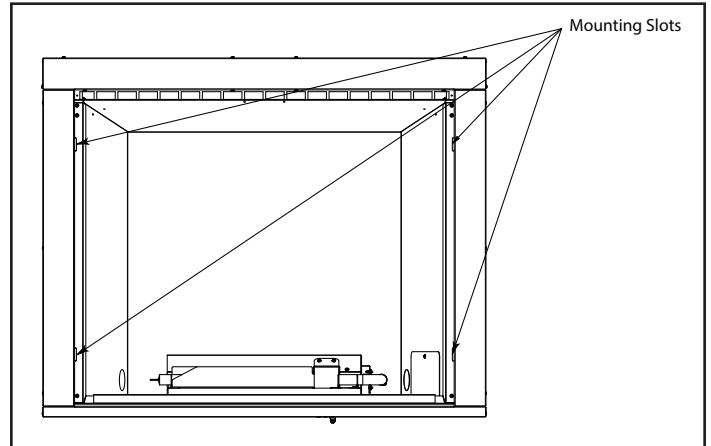

Figure 6
9. Locate the screen mounting slots (4) inside of the appliance opening. Mating mounting tabs (4) are located on the right and left sides of the Screen Front. See Figure 6.